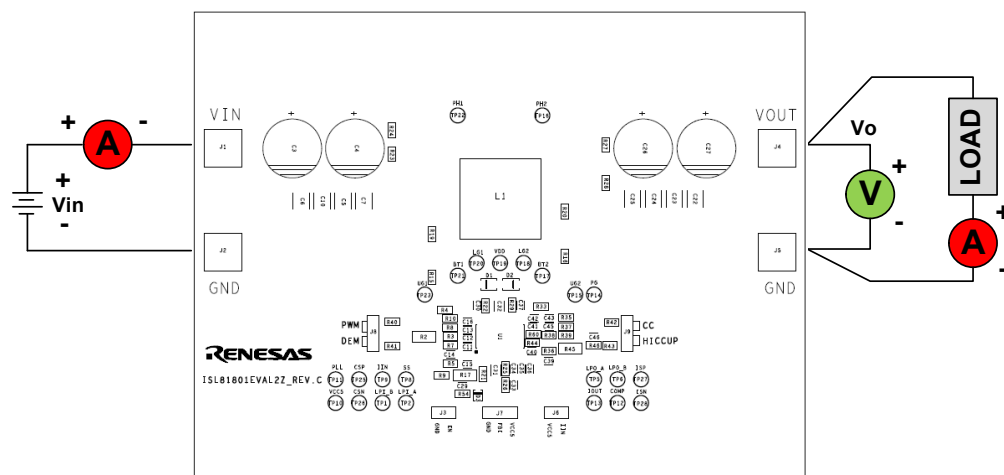

Figure 4. Proper Test Setup
As shown in Figure 4, 9V to 80V VIN is supplied to J1 (+) and J2 (-). The regulated 48V output on J4 (+) and J5 (-) can supply up to 5A to the load. Due to the high power efficiency, the evaluation board can run at 5A continuously without airflow at room temperature ambient conditions.
1. Jumper J8 provides the option to select PWM or DEM. Jumper J9 provides the option to select constant current limit or HICCUP. See Table 2 for the operating options. Ensure that the circuit is correctly connected to the supply and electronic loads before applying any power. See Figure 4 for proper setup.